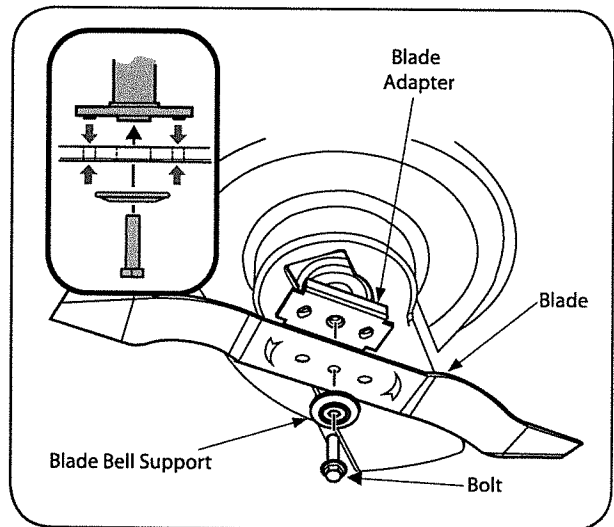

Figure 14
2. Remove the bolt and the blade bell support which hold the blade and the blade adapter to the engine crankshaft (Figure 14).
5. Lubricate the engine crankshaft and the inner surface of the blade adapter with light oil. Slide the blade adapter onto the engine crankshaft. Place the blade on the adapter such that the side of the blade marked "Bottom" (or with part number) faces the ground when the mower is in the operating position. Make sure that the blade is aligned and seated on the blade adapter flanges. See Figure 14 insert.